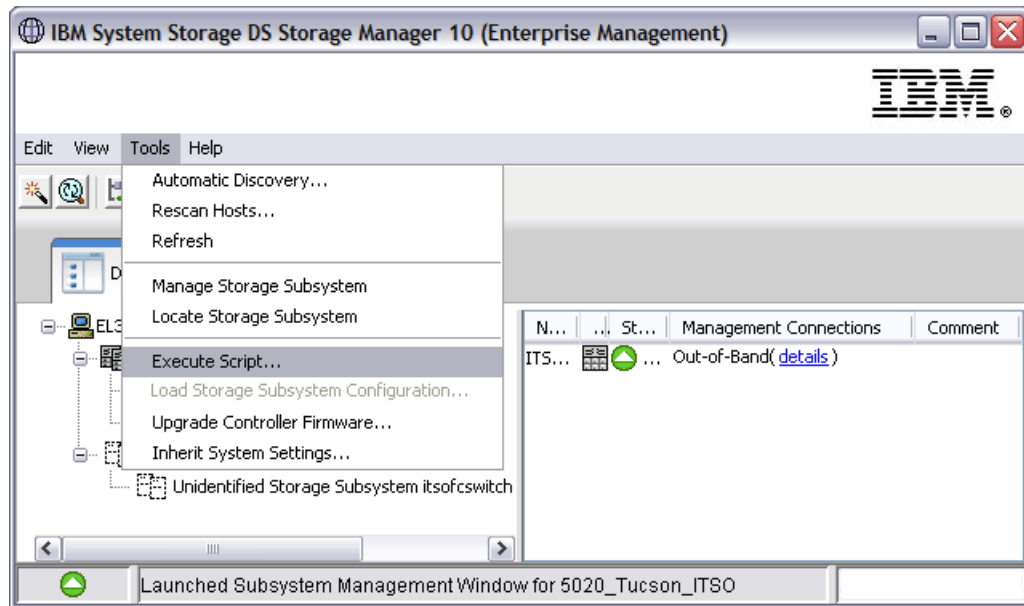

Figure 7-1 Starting the Script Editor
2. Select **Tools** → **Execute Script**, as shown in Figure 7-1, or right-click and select **Execute Script**.